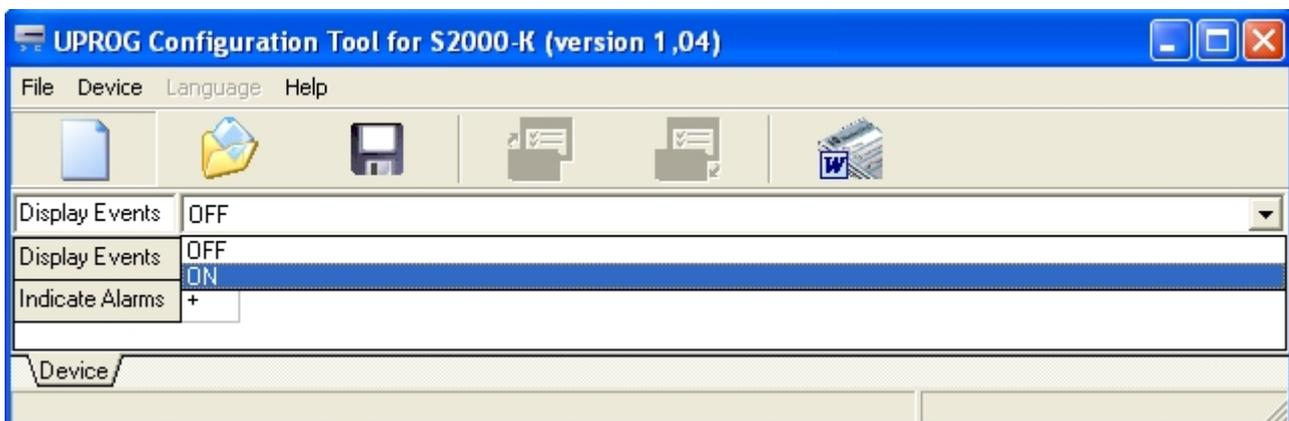

Figure 3
3. The UProg will display the current settings of the S2000-K which can be revised (see Figure 3).
To activate these options, double click the left mouse button on the proper field or select the relevant option and set the proper value from the dropdown list at the top right corner of the program window (see Figure 3). Note, that alarms can be indicated only if events are being received from the network controller, so *always enable the Displaying Events option when you have activated the Indicate Alarms option*.